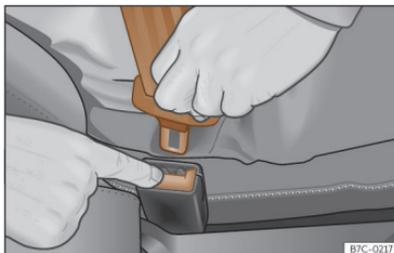

Fig. 38 Release the seat belt's latch plate.
- Press the red button on the buckle >>> **Fig. 38**. The latch plate is released from the buckle.